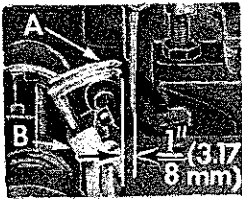
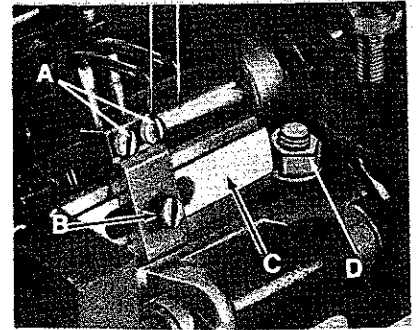

Fig. 3
Fig. 4
Insert loopers (A, Fig. 3) in looper holders (B) as far down as their shanks will permit, with their points toward the operator. The right side of the looper blades should be at right angles ( $90^{\circ}$ ), to the centerline of the mainshaft. Tighten screws
(A, Fig. 4). Loosen screw (B) and position looper holder so that the point of the loopers when moving forward, passes the left side of the needles as close as possible without picking at the needles, .003 inch (.076 mm) clearance. Retighten screw (B). Set the looper holder frame (C) so the distance between the centerline of the needles
and the point of loopers are 1/8 inch (3.18 mm) when the loopers are at their farthest point of travel to the rear (Fig. 3). This can be accomplished by loosening the hexagon nut (D, Fig. 4) in the looper holder frame driving arm. Move the looper holder frame (C) towards the front or rear as required and retighten nut (D). Looper gauge No. 21225-1/8 can be used advantageously in making this adjustment. **NOTE:** The 1/8 inch (3.18 mm) looper gauge setting must be made with both loopers, in order to maintain proper needle bar alignment.